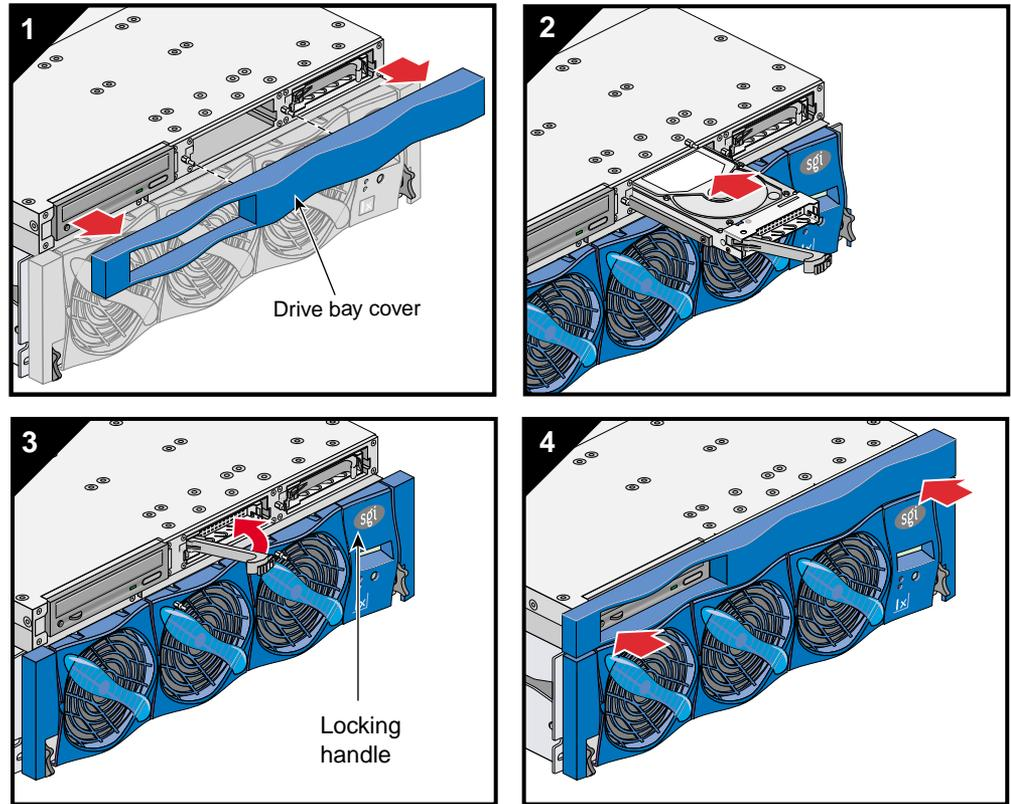

Figure 14-11 Installing SCSI Disk Drive
To install a SCSI disk drive, see Figure 14-11 and follow these steps:
1. Remove the drive bay cover to access the two SCSI disk drive bays (see panel 1 in Figure 14-11).